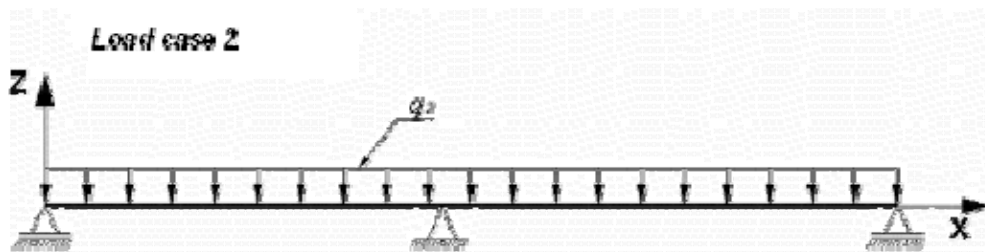

Figure 7.4 Load case No.2 for beam
- load case 2 – uniformly distributed load  $q_2 = 0.3 \text{ t/m}$  (see Figure 7.4);